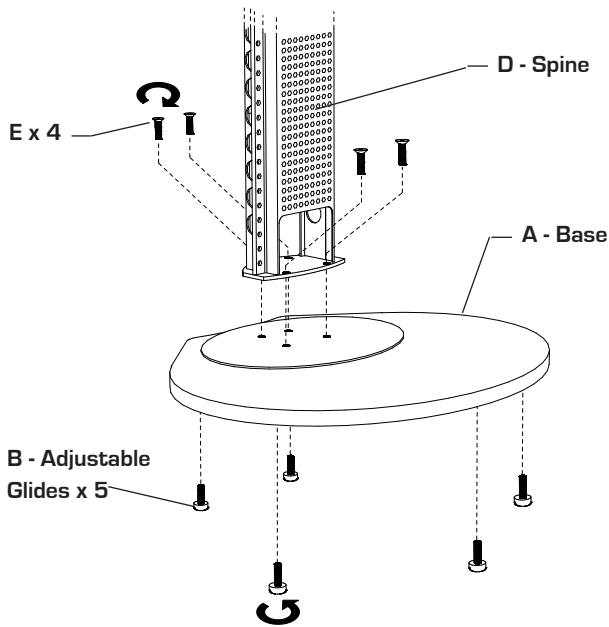

Figure 1
Thread **Adjustable Glides (B)** into holes on underside of **Base (A)** (Figure 1).
Attach **Spine (D)** to **Base (A)** using 4 - 3/8" x 1.25" **Flat Head Screws (E)** and **Large Hex Wrench** provided (Figure 1).